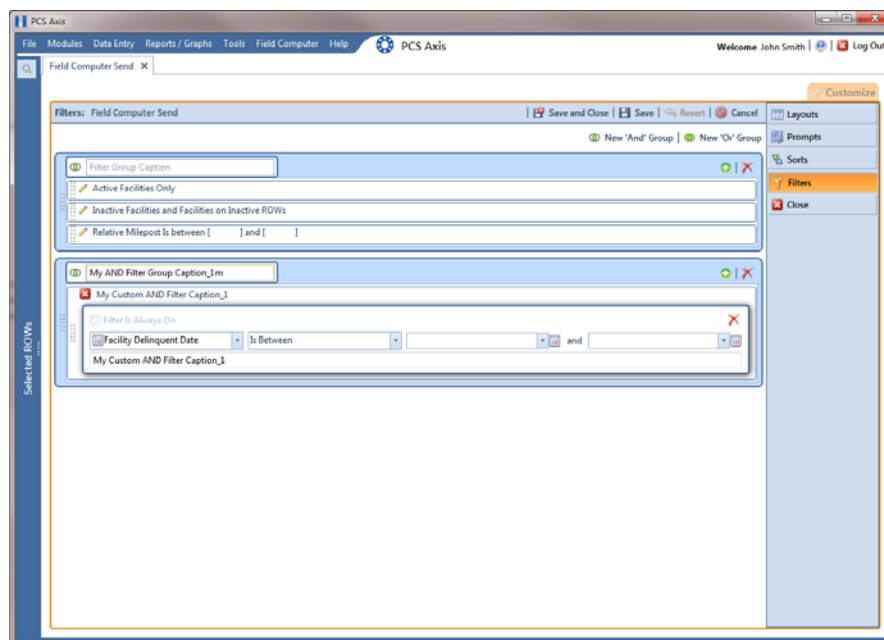

Figure 13-35. New 'And' Filter Group
- 4 Click the **Customize** tab , then the **Filters** button  to open the *Filters* page (Figure 13-35, page 554).
- 5 Click  **New 'And' Group** to open the filter properties group box (Figure 13-35, page 554).
- 8 If the AND filter group includes a date filter, such as *Facility Delinquent Date Is Between* shown in Figure 13-35, set a date range using a calendar or dynamic dates in the following manner: